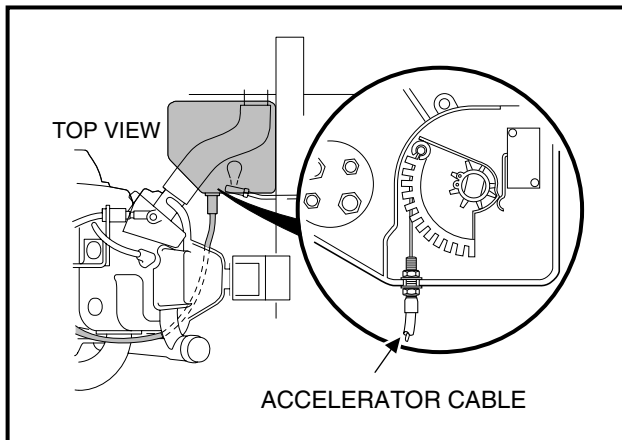

Figure 16-54 Connect Cable to Cam
29. Connect accelerator cable to actuator cam in the electrical box. Position the accelerator cable in mounting slot in the wall of the electrical box and tighten mounting nuts to 18 in-lb (2.0 N·m) (**Figure 16-54, Page 16-21**). Install electrical box cover and tighten cover screw to 18 in-lb (2.0 N·m).